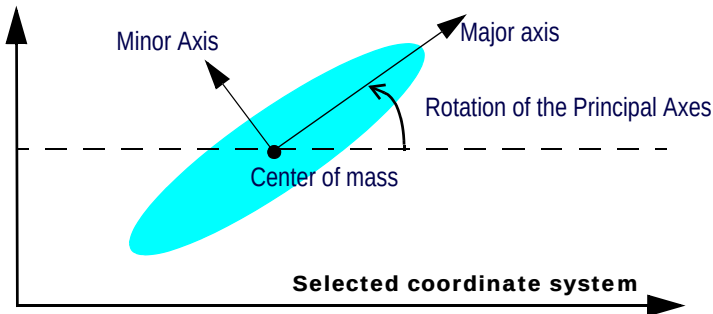

Figure 310 Rotation of the Principal Axes
moment of inertia is smallest. Conversely, the minor axis (Y) is the axis about which the moment of inertia of the blob is the greatest. See Figure 310.
The rotation of the Principal Axes reference system is the counterclockwise angle between the X-axis of a selected coordinate system and the major axis. See Figure 310.